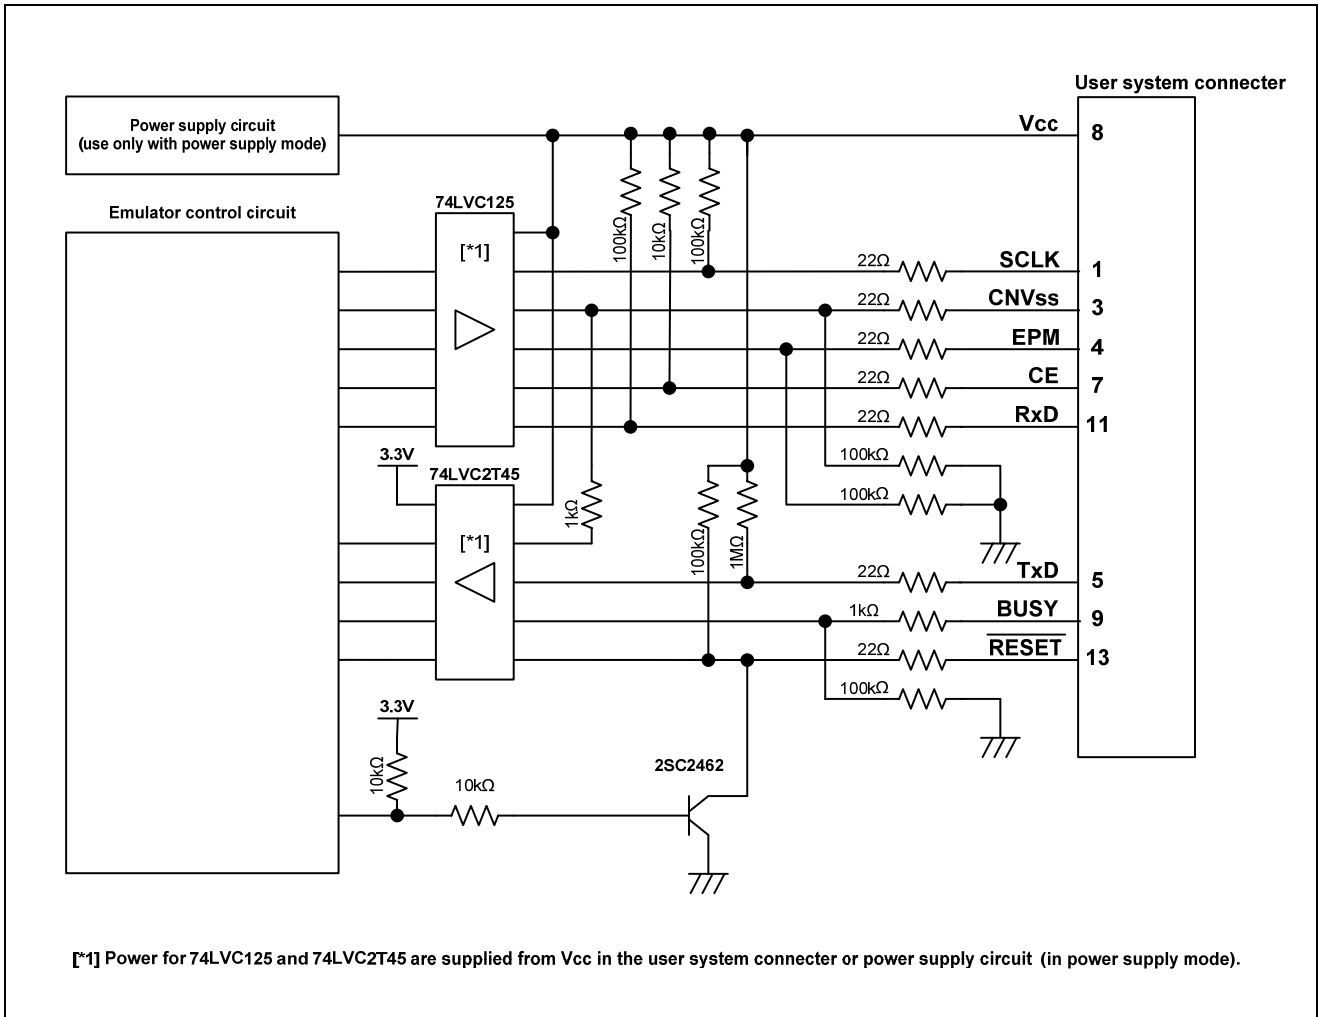

Figure 5.7 Interface Circuit Inside the E8a Emulator (For Reference)
1. Pins P64, P65, P66 and P67 are used exclusively by the E8a emulator. Connect the E8a emulator to the MCU pins. Connect pins P66 and P67 to the E8a emulator after pulling up the MCU pins at the Vcc level. For P64 and P65, pull up the pins at the Vcc level or pull down them according to the MCU pin state after disconnecting the E8a emulator. P64 may be in a Hiz state while the E8a emulator is active. Therefore, set the pin resistance value so the voltage cannot be at the midpoint potential, depending on the voltage dividing of the resistance inside the E8a emulator (Figure 5.7).
P86, or P85 and P16 may be in a Hiz state while the E8a emulator is active. Therefore, set the pin resistance value so the voltage cannot be at the midpoint potential, depending on the voltage dividing of the resistance inside the E8a emulator (Figure 5.7).
9. Figure 5.7 shows the interface circuit in the E8a emulator. Use this figure as a reference when determining the pull-up resistance value.